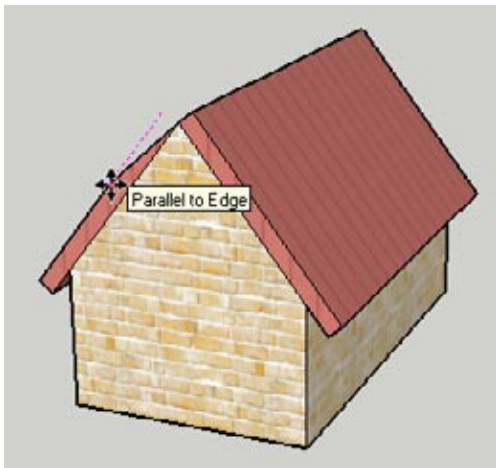

Figure 5-12
13. Move the cursor slightly out from the edge, until you see the *Parallel to Edge* inference (Figure 5-12).